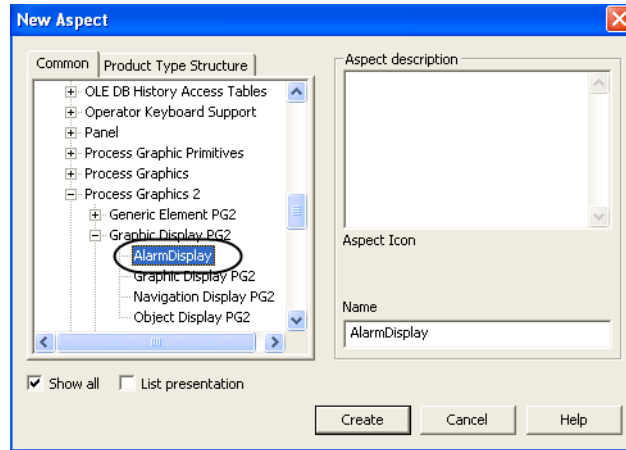

Figure 258. New Aspect
7. Right-click on **Alarm Display**, and select **New Aspect** from the context menu. The **New Aspect** dialog appears as shown in Figure 258.
8. In the aspect list, select **Alarm Display** from **Process Graphics 2 > Graphic Display PG2**. Enter a name for the aspect and click **Create**. Refer Figure 258.